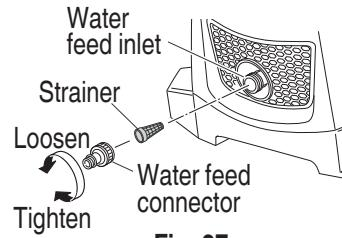

Fig. 27
2. Inspecting the strainer (Fig. 27)